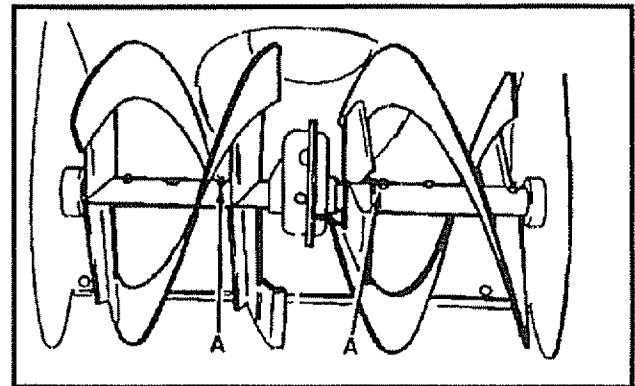

FIG. 16
- Auger Shaft - For storage, lubricate auger shaft ( See Fig. 16) with a clinging type grease such as Lubriplate. When replacing shear bolts, remove shear bolts and lubricate auger shaft (see To Replace Shear Bolt paragraph on page 24).